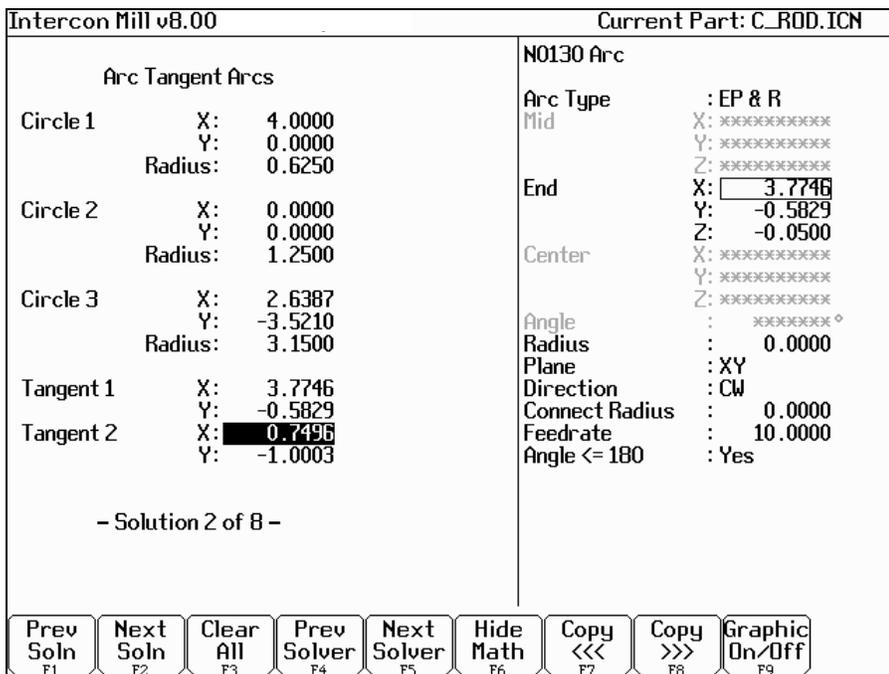

FIG. 6 – New arc 2 entry screen shown with solution for arcs 1 and 2 of Figure 3.
- F6** Math Help Redisplay the Math Help values calculated for the last arc. The screen will look like figure 6, below.